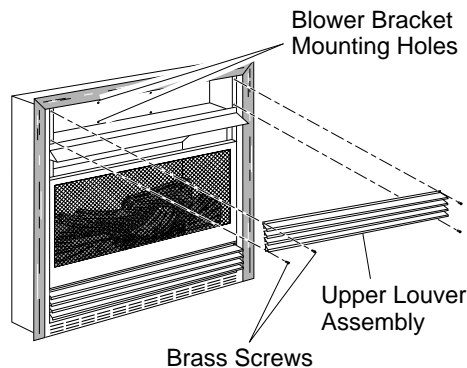
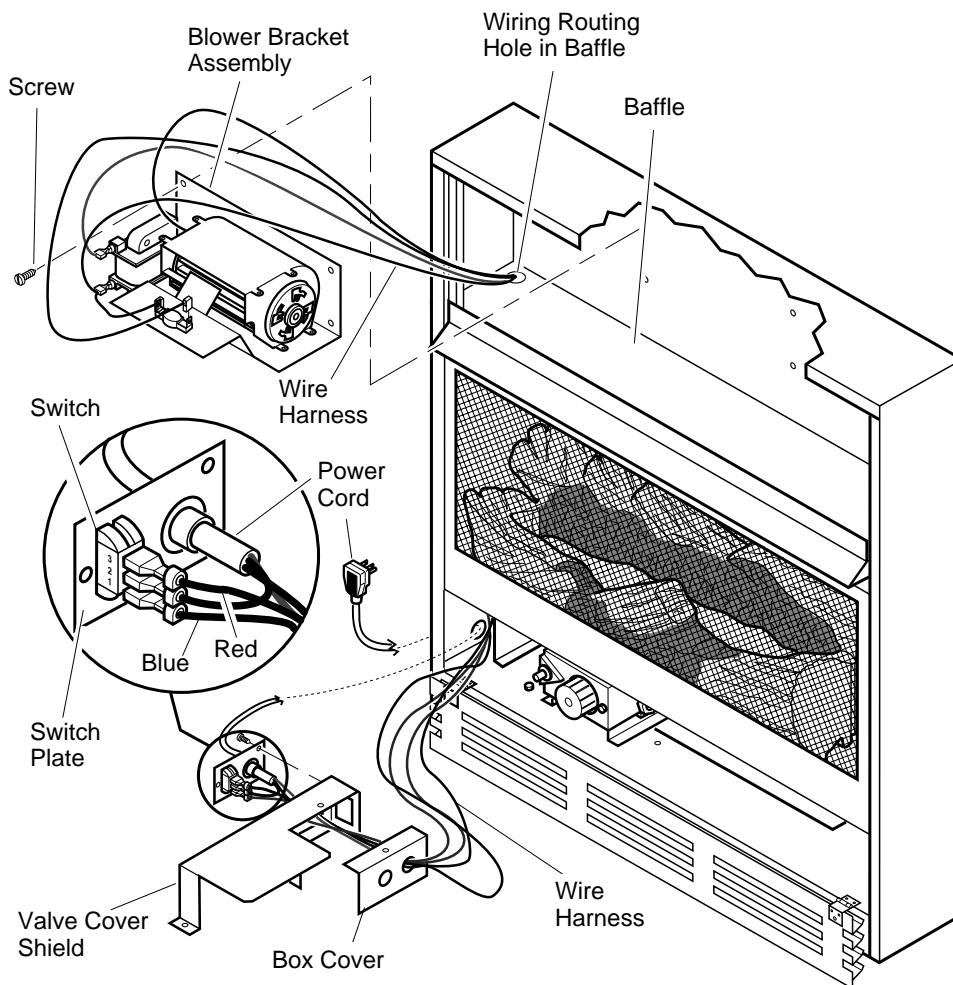
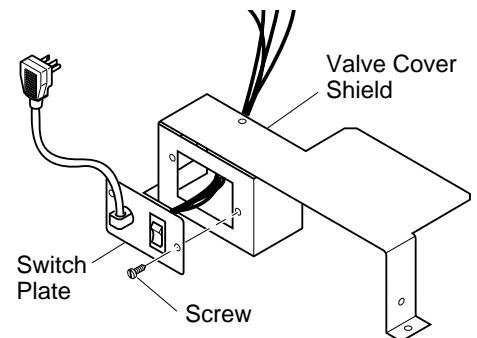

Figure 16 - Removing Upper Louver Assembly
Figure 18 - Installing Blower Bracket Assembly
Figure 19 - Installing Switch Plate to Valve Cover Shield
2. Remove 4 screws from louver assembly (see Figure 16). Save these screws.
3. Note the wire locations on back of AUTO/OFF/ON switch. The terminals on back of switch are numbered 1, 2, and 3. Carefully remove red wire from terminal 1 and blue wire from terminal 3. Black wire can remain on middle terminal 2 (see Figure 18, page 12).
- In top of the heater cabinet, locate the four mounting holes on the outer casing. Align these four holes with those on the blower bracket assembly. Attach blower bracket assembly to the outer casing with 4 #10 screws provided (see Figure 18).
- Route the wire harness through the hole in left side of baffle. Pull wire harness through lower opening above where the valve shield was removed. (see Figure 18).
- Insert the 4 wire harness into one of the round holes in the rear of the valve cover shield and through the rectangular hole in the front of shield (see Figure 18).
- Install the switch plate on the valve cover shield with 2 #10 screws provided (see Figure 19). Reinstall the valve cover shield. Route power cord out of the cabinet by inserting it through the bushing on the outer casing (see Figure 18). Plug fan kit into 120-Volt grounded power supply and test operation. **Note:** When switch is in the AUTO position, the fan will start after the heater has run for a few moments. The fan will continue to run for several moments after the heater has been turned off. When switch is in the ON position, the fan will run until turned to OFF. Reinstall upper louver assembly and hood if previously removed, (see Figure 16, page 11). Close lower louver door.
8. Reinstall upper louver assembly and hood if previously removed, (see Figure 16, page 11). Close lower louver door.